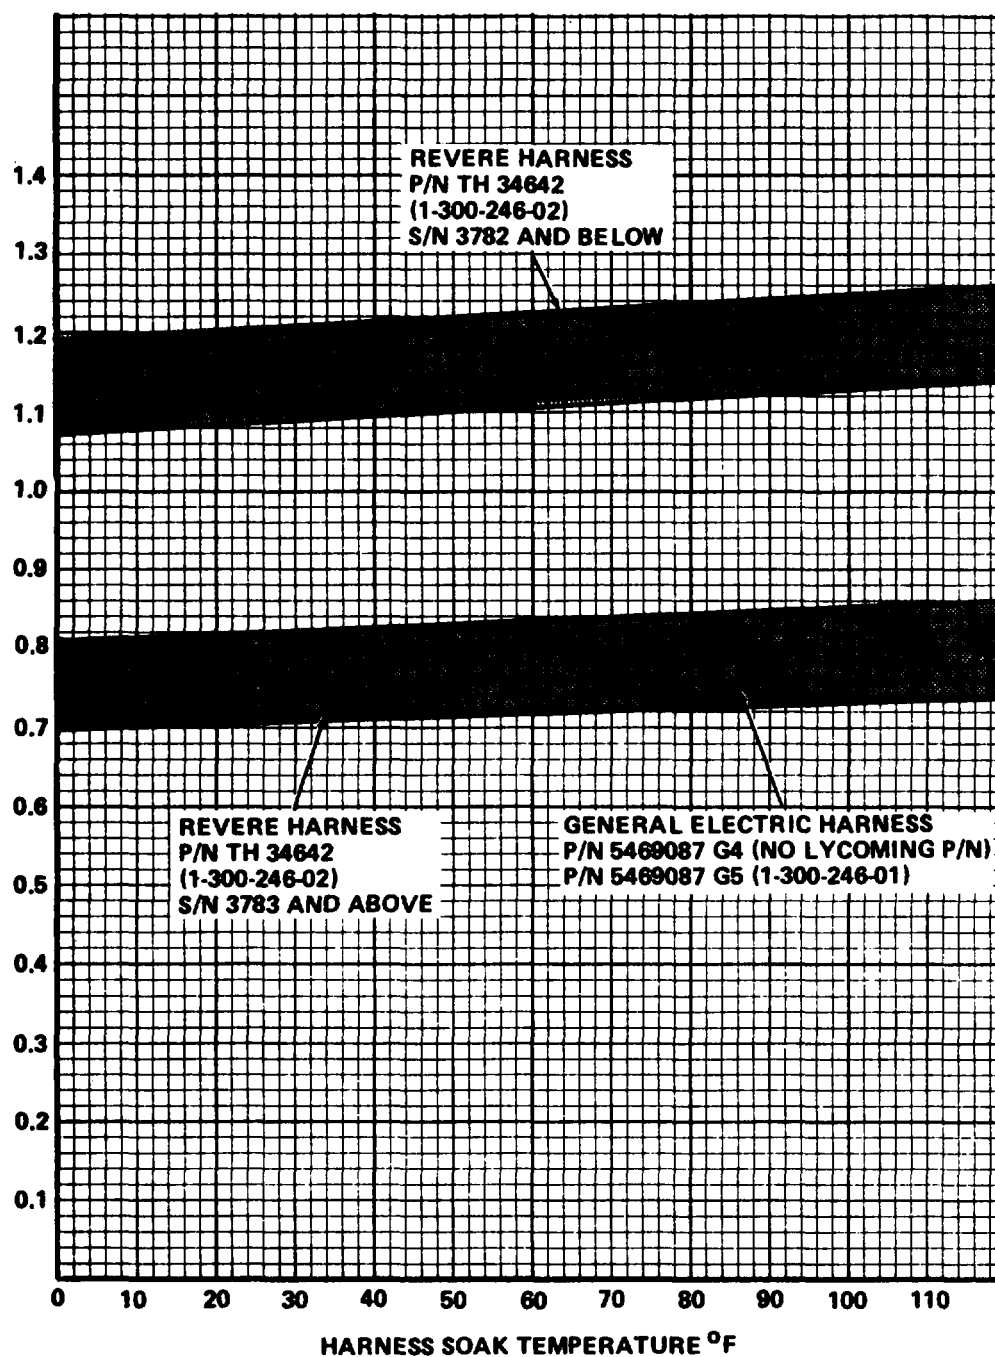

Figure 1-33. Harness Soak Temperature/Resistance (T53-L-11 Series Engines)
- (1) Check each individual thermocouple to ensure that all thermocouples are operative. As heat is applied to each thermocouple, the airframe EGT indicator must show a temperature rise.
- (2) Perform a cockpit EGT indicator check. (Refer to applicable airframe manual and TM55-4920-244-14.)
- (3) Perform an engine exhaust thermocouple assembly resistance check as follows:
- (b) If engine harness resistance is not within limits at particular ambient soak temperature as shown in figure 1-33, replace thermocouple harness assembly.